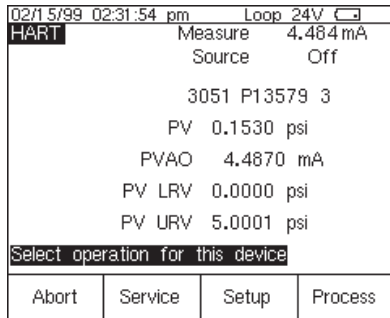

Figure 5
1. Power on the Fluke 744 Calibrator. Press the red **MEAS** key followed by the **Loop Power** softkey and the 744 will display the basic HART information for the 3051 (Figure 5).